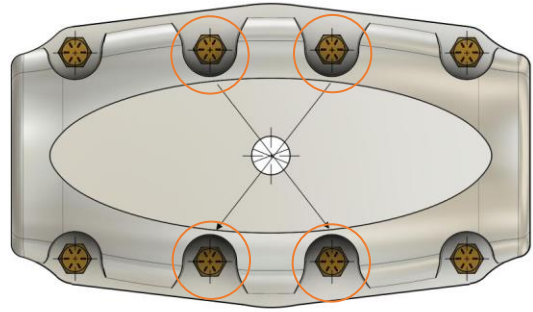

Figure 1
11. Place the top half of the hub (REF-1) on top of blades. Insert four center "top hub to engine" bolts (REF-12) using the supplied Nord-lock washer under the head of the bolt. These are the longer bolts that go through the hub into the crank or threaded extension. Using socket wrench, hand tighten bolts diagonally as shown in Figure 1.
shown in Figure 1 using cross pattern, incrementally using values in table below